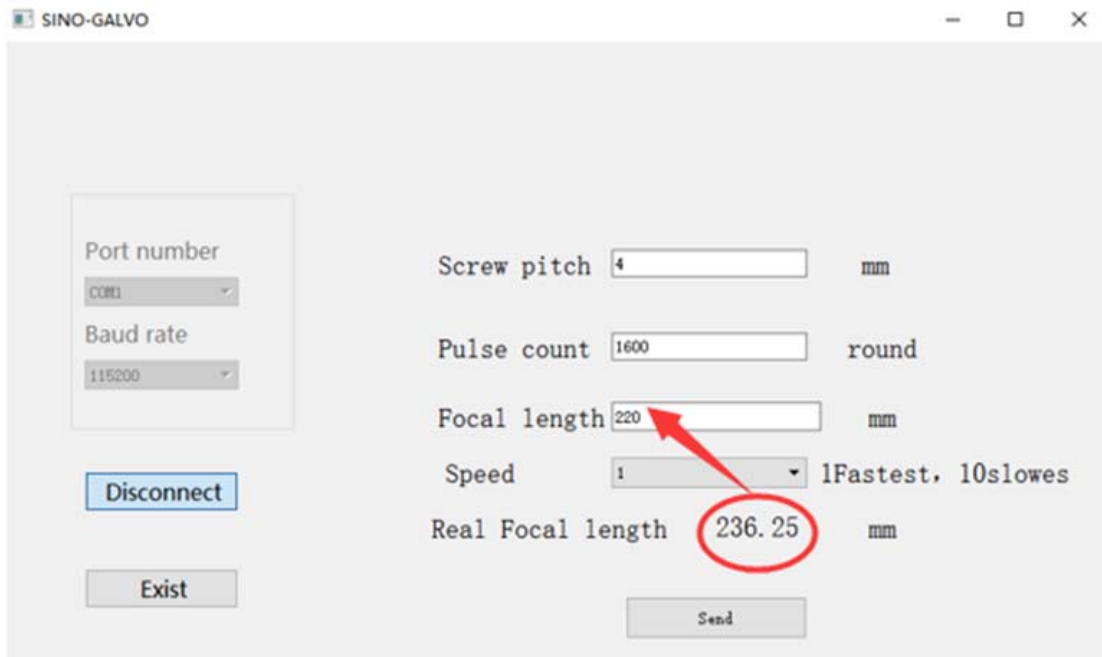

Figure 4-4
⑤ Then determine the exact focal length by setting up/down and testing the marking. The practical distance is shown in the software. (figure 4-4) Record the focal length data when the the marking is correct. Put the practical focal length in the Focal Length blank, click "Send", successfully set window popped up again. The data will be restored in the software. For next using, press the "Auto-focusing" button, the scanner head will automatically move back to the same position.